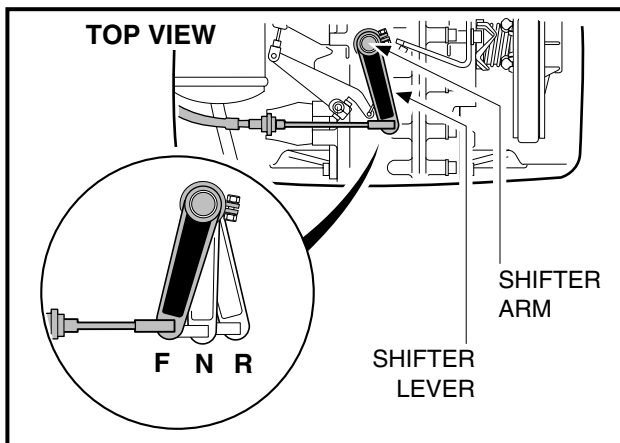

FIGURE 10-1
A shifter lever, connected to a shifter arm on the unitized transaxle, is used to change the gears to one of three shift positions: forward (F), neutral (N), or reverse (R) (**Figure 10-1, Page 36**). See NOTE below.